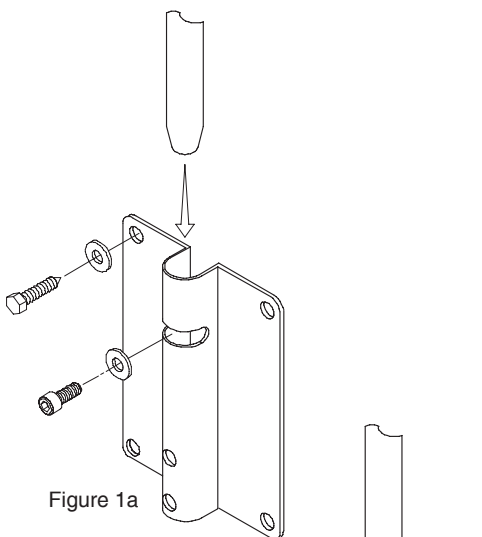
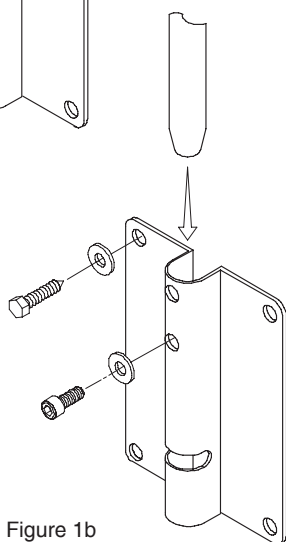

Figure 1a
Figure 1b
To enable the pan angle option, attach the wall mounting plate to the wall with the open center slot towards the ceiling using the appropriate hardware for the wall structure (Figure 1a).
To disable the pan angle option, attach the wall mounting plate to the wall with the open center slot towards the floor using the appropriate hardware for the wall structure (Figure 1b).
Step 3: Lift the assembled speaker with the support arm and insert the support arm into the top of the wall mounting plate. Line up the threaded hole of the support arm with the open slot for pan angle installation (*Figure 1a*) or to the second barrel hole for no pan angle installation (*Figure 1b*) of the wall mounting plate. Install the included socket screw and flat washer until snug.